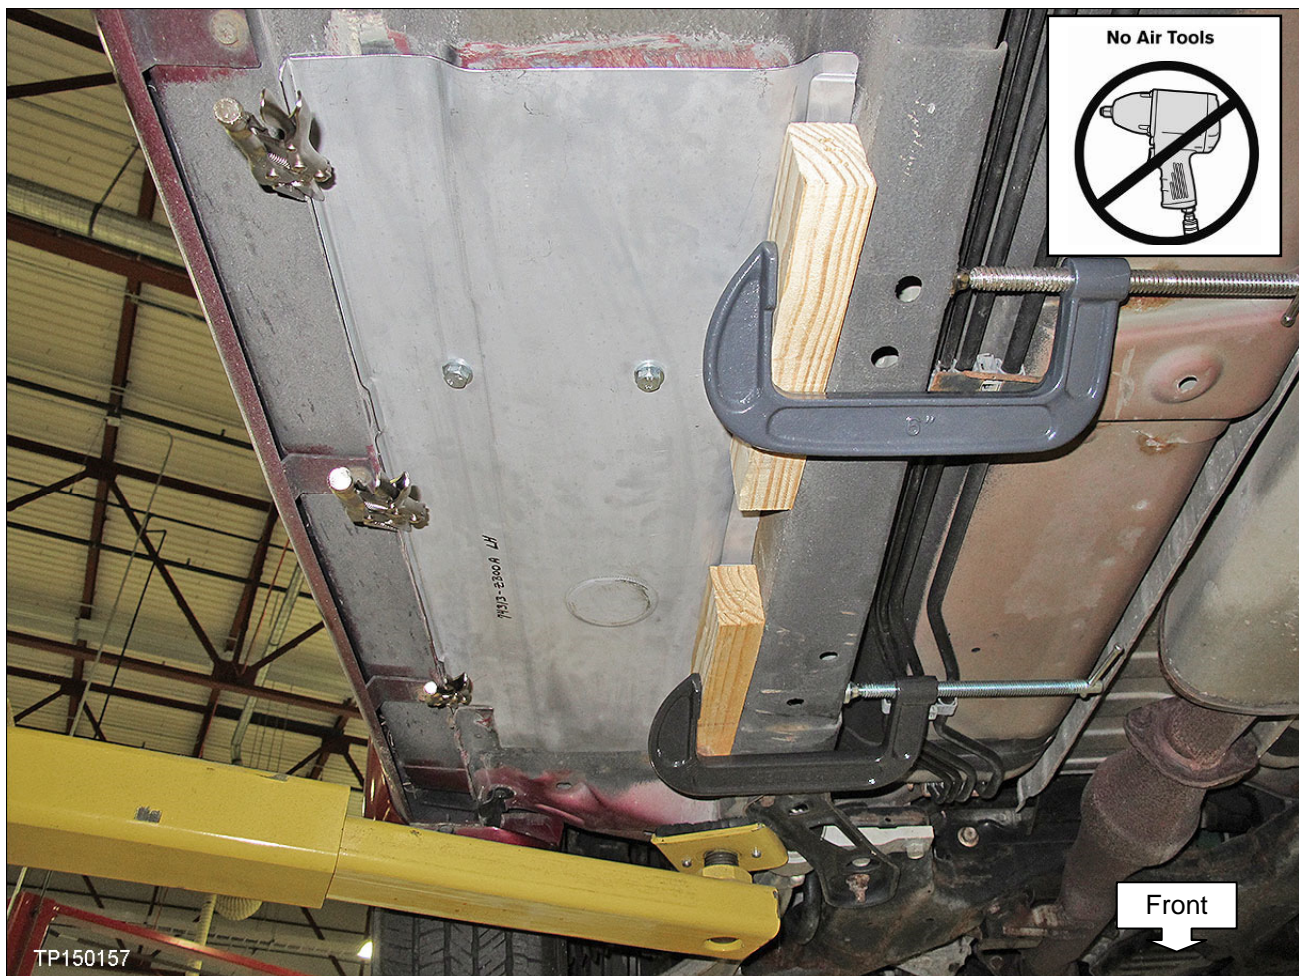

Figure 8
14. Install the Repair Plate, securing it with two retaining bolts threaded into the Rivet Nuts (see Figure 8).
15. Use locking pliers, two C-clamps, and two blocks of wood to securely fasten the Repair Plate to the floor pan (see Figure 8).
**NOTE:** If the locking pliers and C-clamps are angled as shown in Figure 8, the vehicle can be lowered and moved off the lift while adhesive is curing.